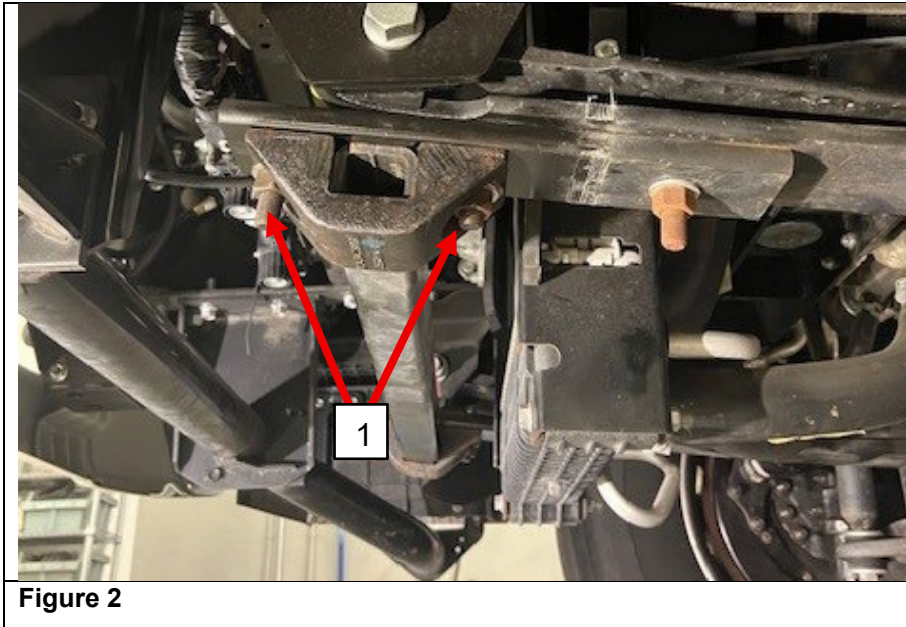

Figure 2
2. Remove the driver's side stabilizer bar bracket nuts and washers (1). (See Figure 2.)